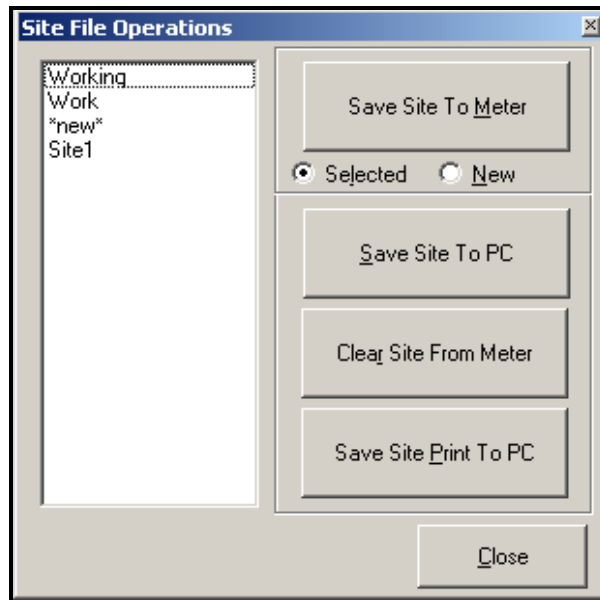

Figure C-14: Site File Operations Window
To access site files, click on the *Site Files* button in the *Properties* window. The *Site File Operations* window (shown in Figure C-14 below) opens.
1. Highlight the desired site in the left pane. (See Figure C-14 on page C-12.)
1. Highlight the site in the left pane. (See Figure C-14 on page C-12.)